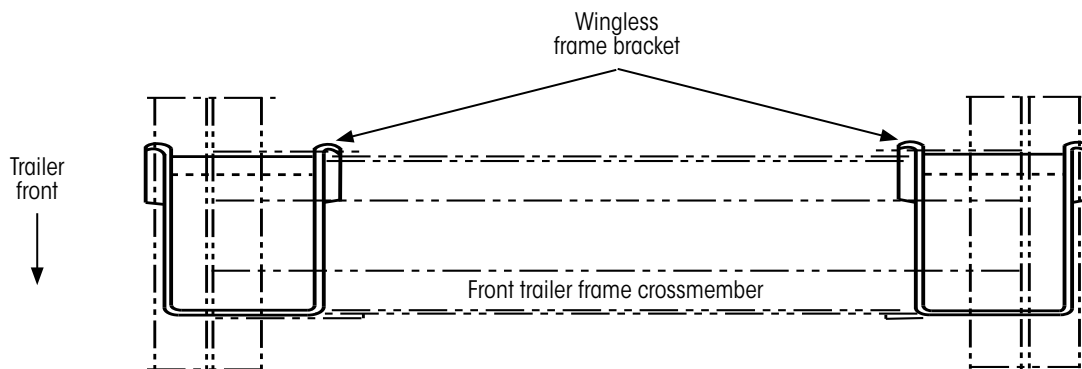
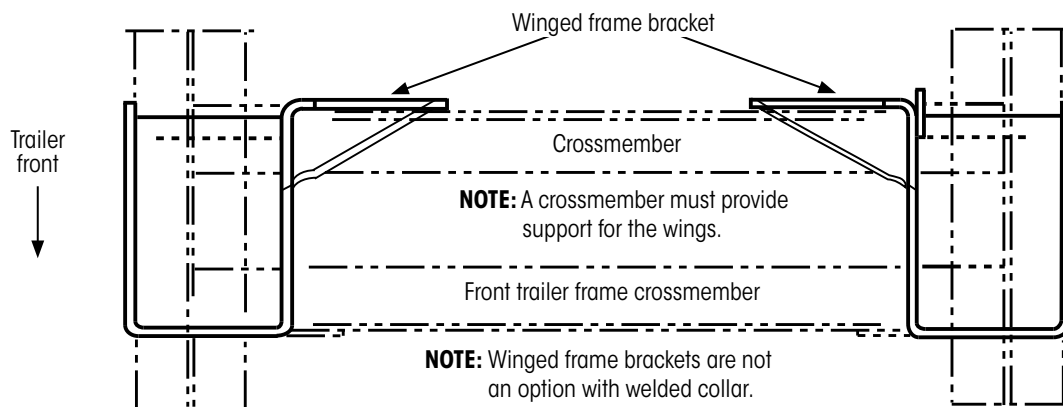

Figure 17: Sample wingless frame bracket installation
Figure 18: Sample frame bracket installation for QUIK-ALIGN® pivot connection models with winged frame brackets
1. **Lift and position** the frame brackets onto trailer frame rails and crossmembers as specified in the supplied suspension installation drawing (Figure 17 and Figure 18).